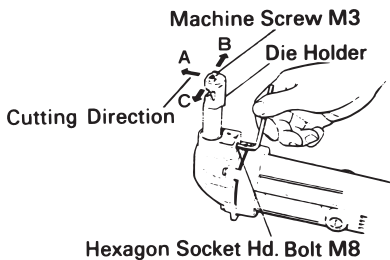
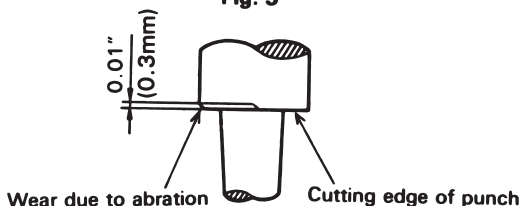

Fig. 4
Fig. 7
Inspect for looseness the M8 hexagon socket set screw used for mounting the die holder, the M3 machine screws used for mounting the die (see Fig. 4) and the M5 hexagon socket set screw used for mounting the punch (see Fig. 7). Caution should be exercised because, if any of these screws are loose, not only does cutting performance deteriorate but the machine can also be damaged.
- (1) The cutting direction of this machine can be rotated in 90° increments in 3 directions (A, B and C) (see Fig. 4) by loosening the M8 hexagon socket set screw mounting the die holder. Set the cutting direction in the B or C direction to cut trapezoidal plates. After that, securely tighten the M8 hexagon socket set screw.
When the machine is used according to the service life indicated in the above table, the punch will have abrasions as shown in the enlarged diagram of the worn punch in Fig. 7. This is when the punch and die should be replaced.
(1) Punch replacement
- Loosen the M8 hexagon socket set screw mounting the die holder (see Fig. 4) and remove the die holder.